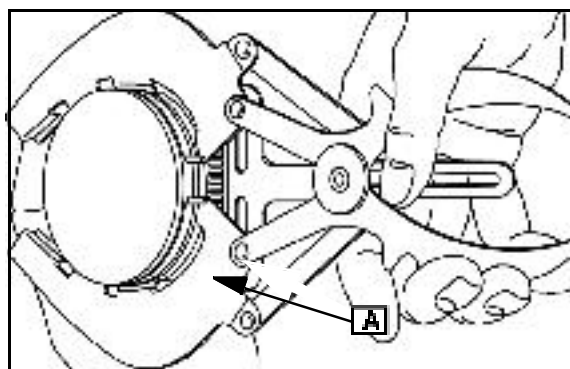

Fig. 3
1. Remove the first two piston rings using Piston Ring Expander (#19340), Fig. 3.